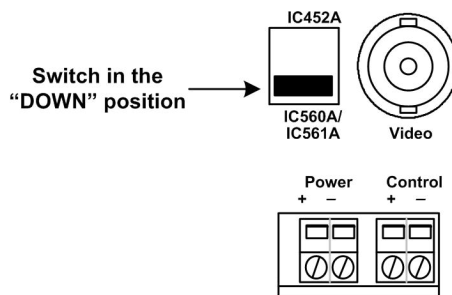

Figure 7: Port Setting – Power-Thru Mode (IC560A/IC561A)
6. In order to transmit video on one (1) twisted pair and remote power on three (3) twisted pairs, set the port switch to Power-Thru Mode (IC560A/IC561A) using a small flathead screwdriver (fig 7). Ensure that there is a CCTV Power-Thru Balun (IC560A or IC561A) at the camera.